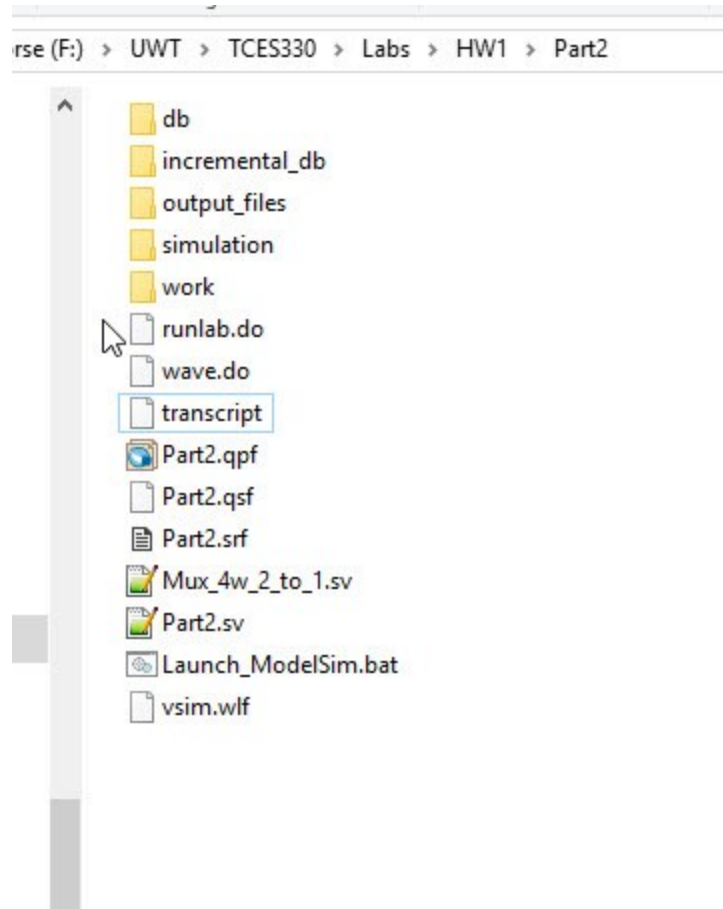

Figure 5. Par2 directory contents.
9. When you are finished, your Part2 folder should contain the files shown in Figure 5.